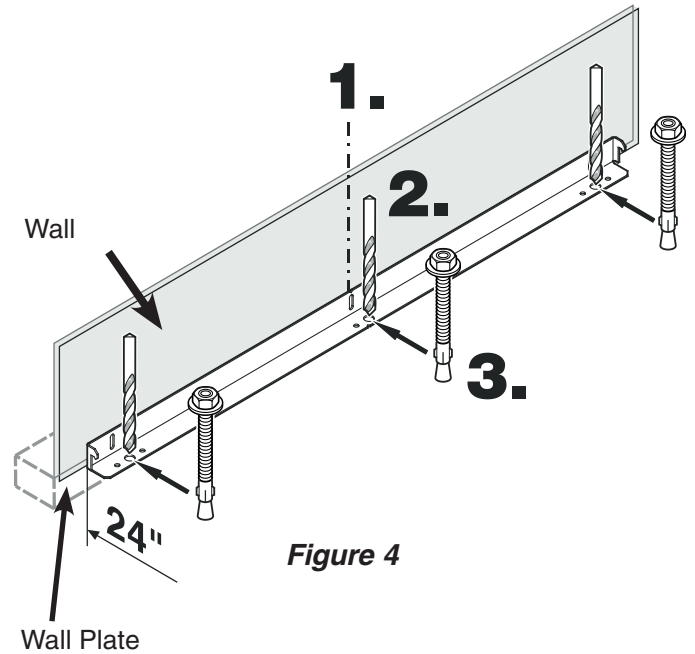

Figure 4
Mounting the anti tipping device on concrete floors - Figure 4 - 5
2. Drill a 3/8" diameter hole in any position as shown in **Figure 4** using a carbide drill bit.